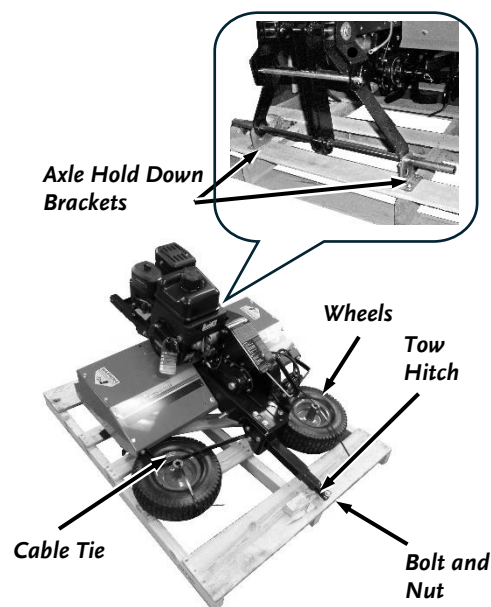

Figure 3
1. Cut the Cable Ties that are securing the Wheels to the Pallet using Wire Cutters (**Figure 3**). Remove the Wheels from the Pallet.